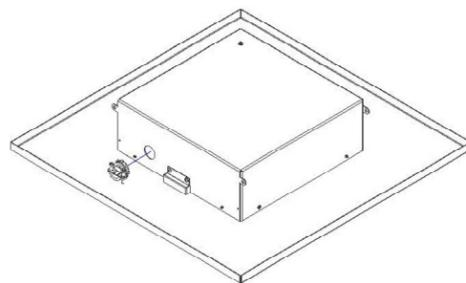

Figure 2
**Step 1** – Place the ceiling enclosure backbox on the work surface. Determine which knockout is to be used to bring in the data cable and remove the knockout. Install the conduit fitting from the inside of the enclosure. Insert the conduit fitting through the hole with the nut installed from the outside of the enclosure (Ref. Figure 2).